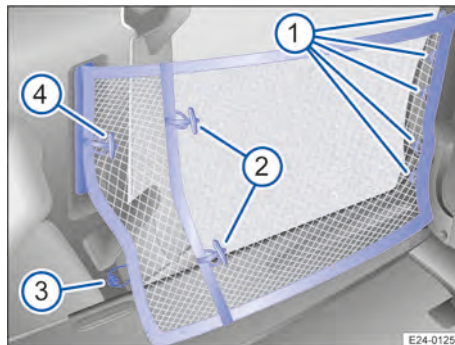

Fig. 137 Load retention net attached with partition set up.
→ Fig. 137 ②.
on the seat frame → Fig. 137 ①.
panel → Fig. 137 ③.